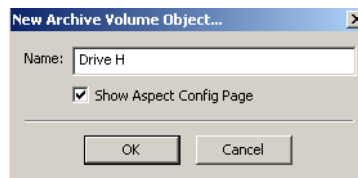

Figure 249. New Archive Volume Dialog
6. Enter a name for the object in the Name field, for example: Drive H, Figure 249, then click **OK**.